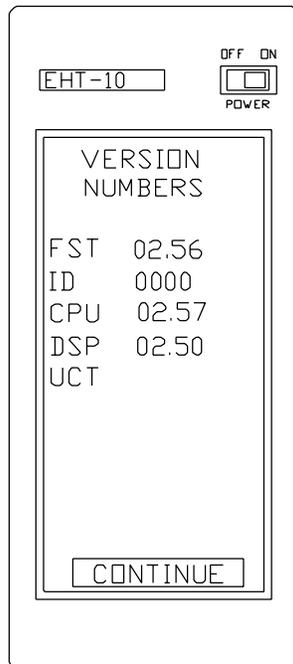

Figure 12 Version Numbers Screen
- * Press **Versn Nos** on the Utilities Function menu. The hand terminal displays the Version Numbers screen, as shown in figure 12.